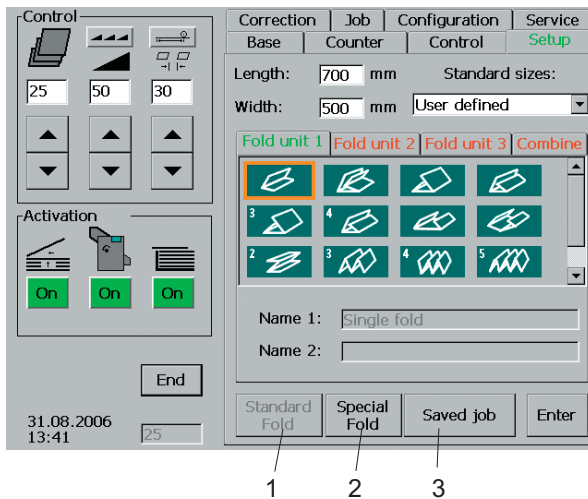

Fig. 15 Fold setting
- Fig.15/1      Standard fold
- Fig.15/2      Special fold
- Fig.15/3      Saved job